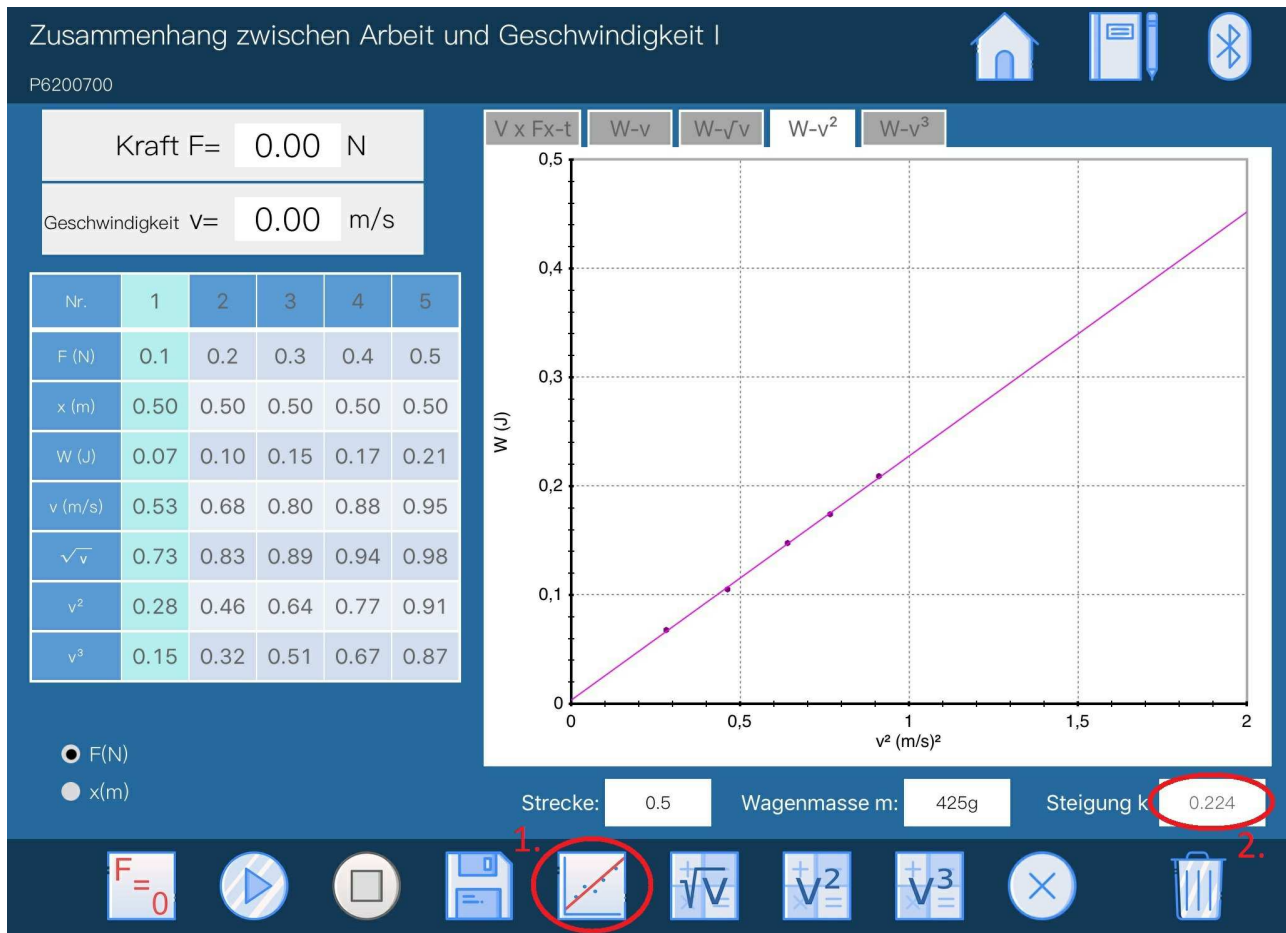

Figure 5: Evaluation procedure - Part 1
- Figure 5 shows the further steps for the evaluation.